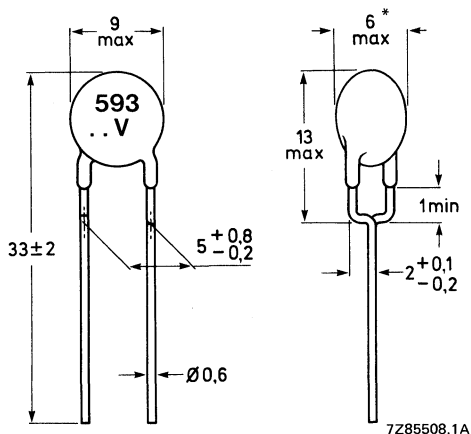

Fig. 1.
The resistors are marked with their serial number (593) and the maximum r.m.s. working voltage (see Fig. 1 and Table 1).